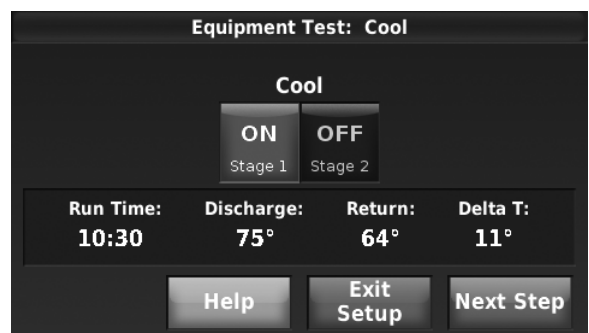

Fig. 157.
- For each stage you test, wait until Delta T begins to stabilize, then turn on the next stage (if present). See Fig. 157 for an example.
4. When setting the run time, select a setting based on when Delta T began to stabilize during the equipment test. In the example shown in Fig. 157 and 159, Delta T began to stabilize around 10-11 minutes.